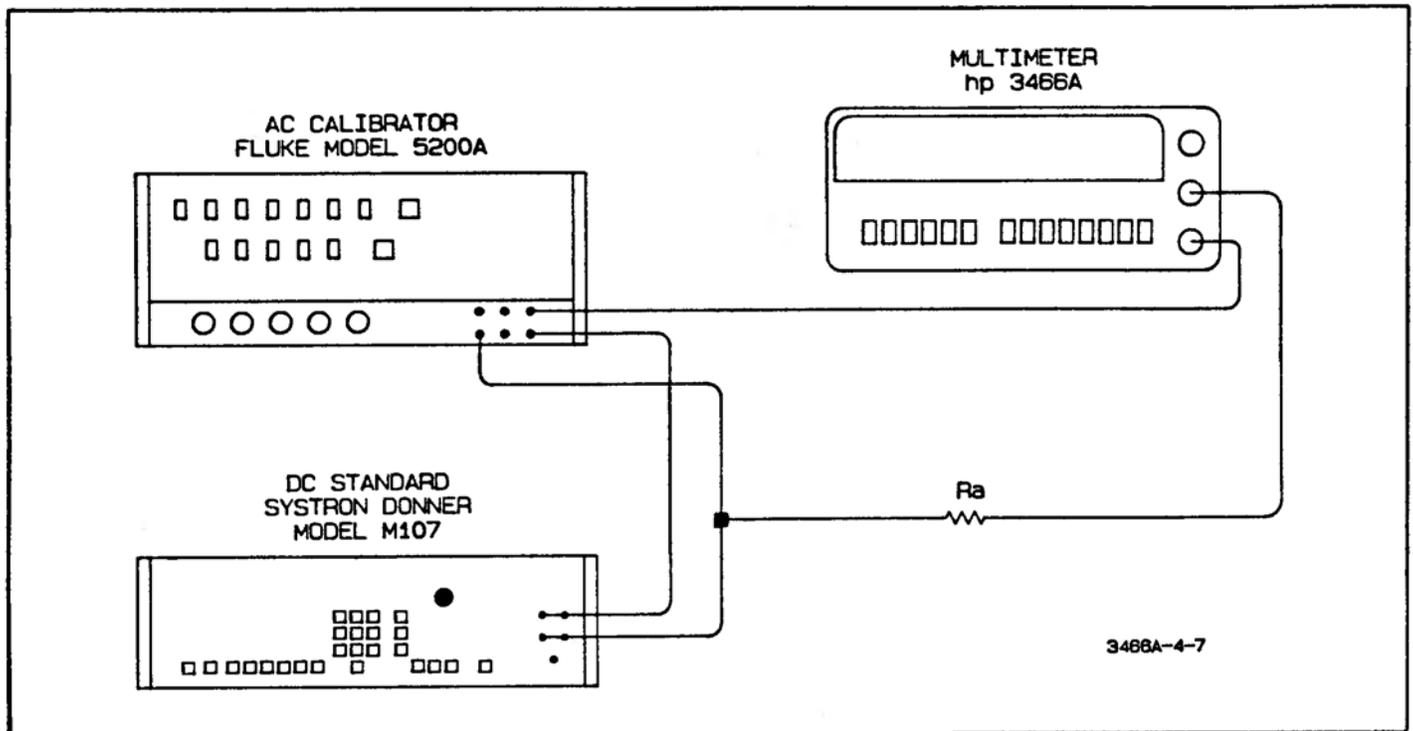

Figure 4-7. True RMS Ammeter Accuracy Test
- b. Connect the DC Standard and AC Calibrator to the 3466A as shown in Figure 4-7. Use the Resistor Decade Box to select the value of Ra.